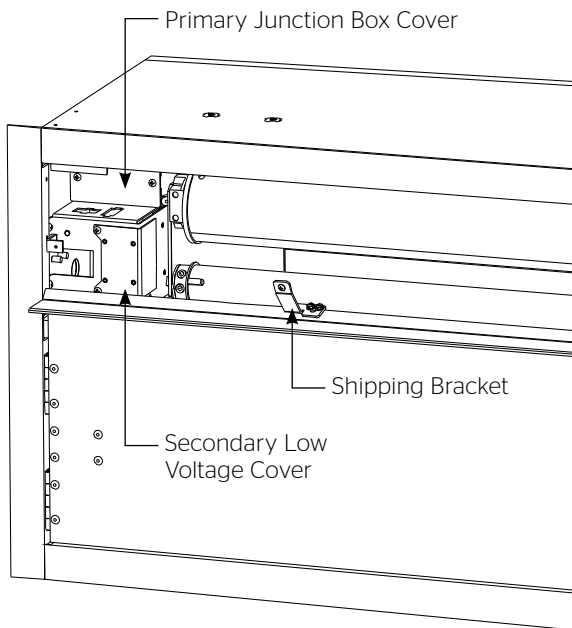
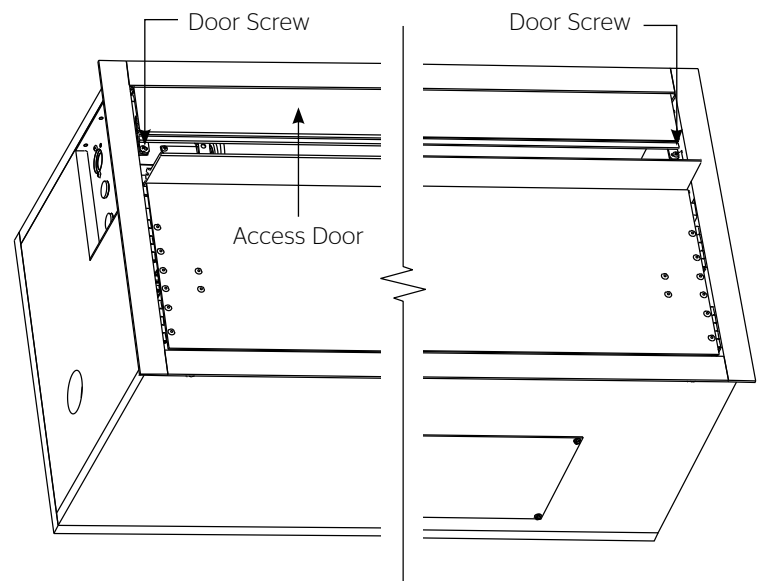

Figure 2 - Bottom of Case
Figure 3 - Bottom of Case
5. Install electrical connections that apply to your unit. Refer to the electrical diagram. The electrical connections are accessible by removing the two screws on the primary junction box cover and the two screws on the secondary low voltage cover (Figure 2). You can remove the access door if needed to allow for greater access to the electrical wiring. To remove the access door; remove the screw from each end of the door while holding the door and slide the door off the flanges (Figure 3).
6. Remove shipping brackets by removing the hex head screws from aluminum slat and case. Slat should move freely (Figure 2). (Only if the roller assembly is pre installed.)